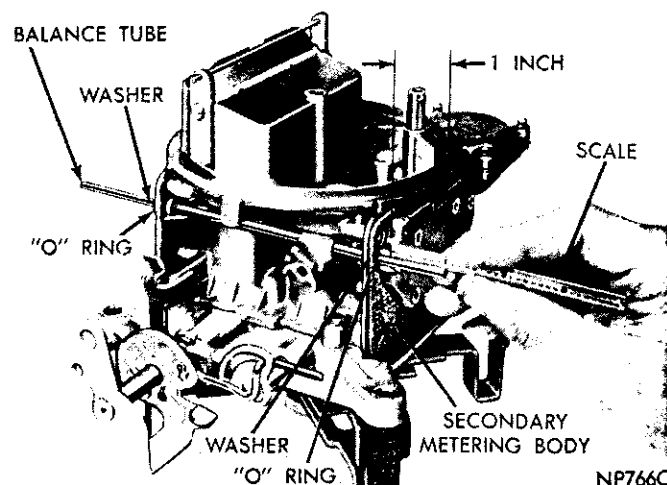

Fig. 14—Positioning Balance Tube
(5) Position balance tube so that only 1 inch extends beyond the secondary metering body (Fig. 14). (Use a 6 inch ruler for this measurement.)
(6) Place a new gasket over primary metering body aligning pin. (Rear) Carefully slide metering body over balance tube and down into position against main body.
(7) Slide a new gasket over metering body alignment studs and carefully position against body.
(8) Carefully install primary fuel bowl over balance tube and down against metering body. Slide new gaskets over the long fuel bowl mounting screws, then install in position through fuel bowl. Tighten securely. If new gaskets are not used, a fuel leak will develop.